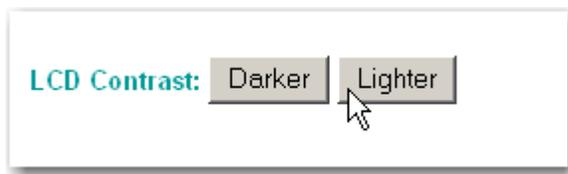

FIG. 235 LCD CONTRAST ADJUSTMENT
- Step 1. You can change the contrast on the HI 4050 display from the Web Page by clicking on the Darker or Lighter buttons. (See Fig. 235)